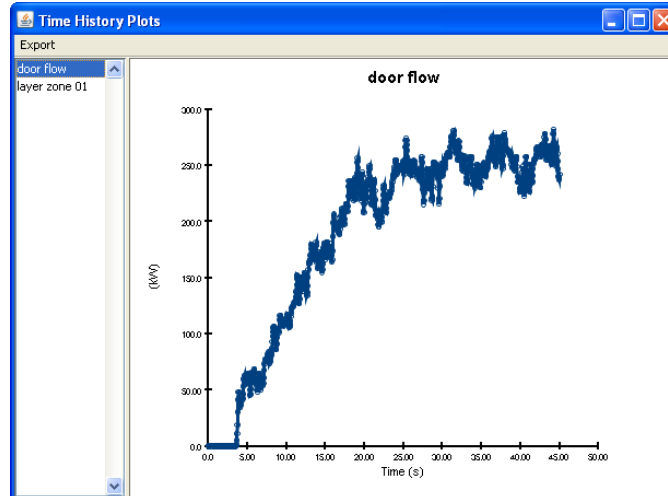

Figure 5.11. Time history plot of heat flow through the door.
2. A dialog will appear showing the different types of 2D results that are available. Select **smoke_devc.csv** and click **Open** to view the device output. The first display will be the heat flow through the door, Figure 5.11.